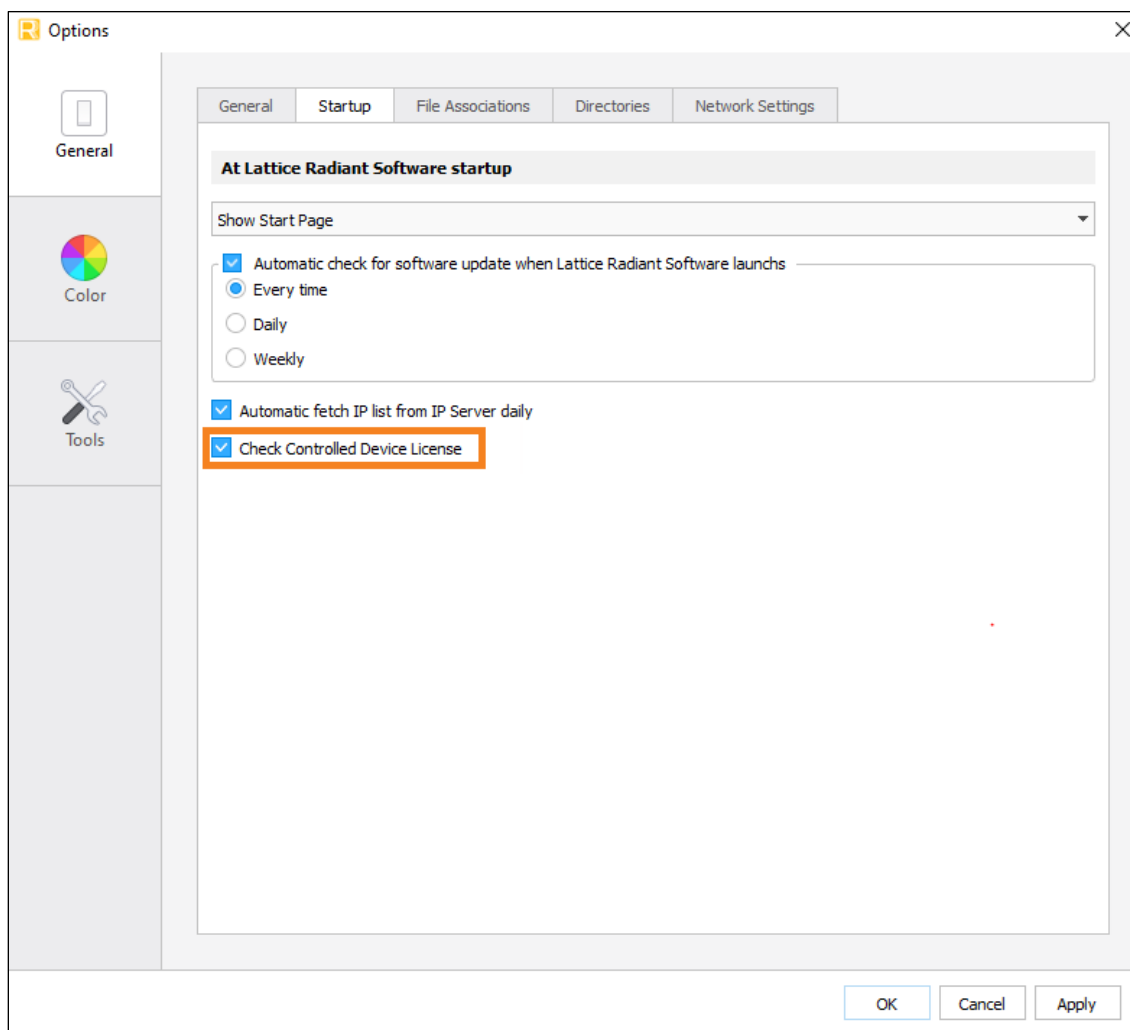

Figure 3.2. Check Controlled Device License
2. Enable the Check Controlled Device License item (Figure 3.2).